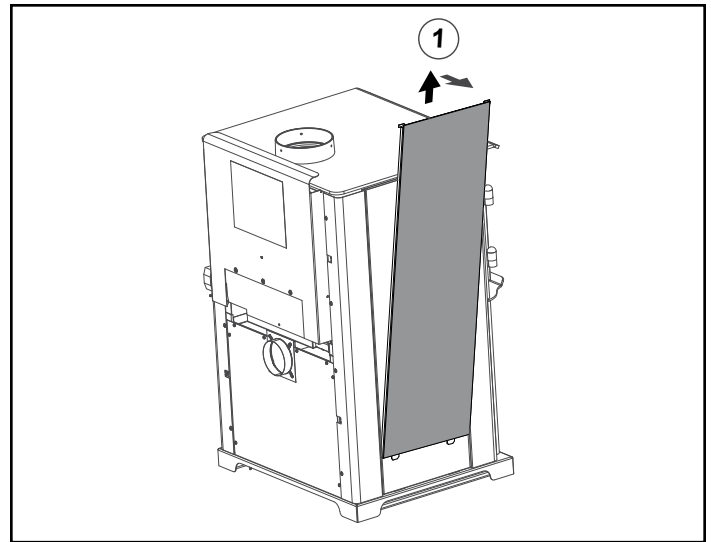

Figure 17.4
- Remove solid panel from side by lifting up and pulling away from appliance (use a flat tool to pry from bottom if needed) (**Figure 17.4**).
- Remove tile frame from side by lifting up and pulling away from appliance (**Figure 17.4** reference **solid side panel removal**).